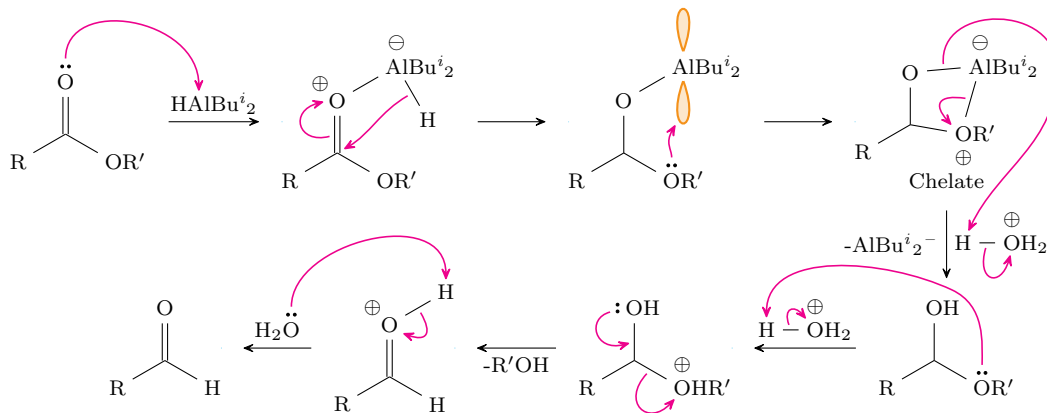
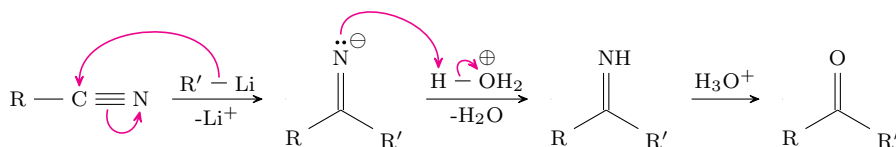

Figure 3.3: Monoreduction of esters mechanism.
Figure 3.6: Nitrile alkylation mechanism.
- As in Figure 3.3, the heteroatom (nitrogen) attacks the aluminum of DIBAL-H to start. We then undergo the same proton rearrangement to get to a stable species. However, instead of forming a chelate, the acid takes us to the same imine as in Figure 3.6, and then further to the aldehyde (also as in Figure 3.6).